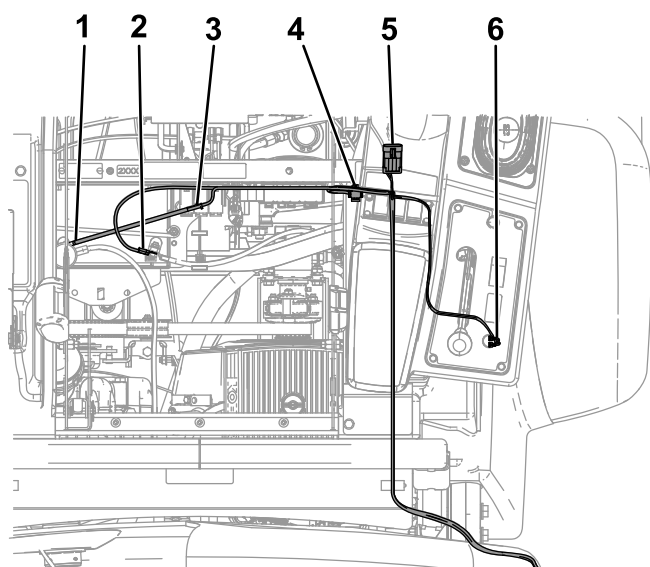

Figure 4
7. Connect the hose reel button to the wiring harness, and install the button and weatherproof nut onto the rear console panel (Figure 4).
9. Connect the nearby connector into the hose reel plug on the main wiring harness, located under the front portion of the control arm (Figure 4).
11. Connect the fusible link to the red wire attached to the positive (+) battery terminal (Figure 4).
12. Connect the far end of the wiring harness to the fuse block ground (Figure 4).